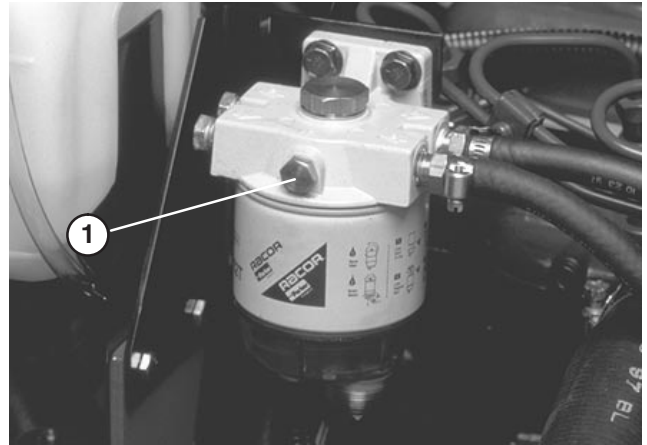

Figure 28
BLEEDING FUEL SYSTEM (Fig. 28 – 30)
- 2. Loosen air bleed screw on top of fuel filter/water separator (Fig. 28).